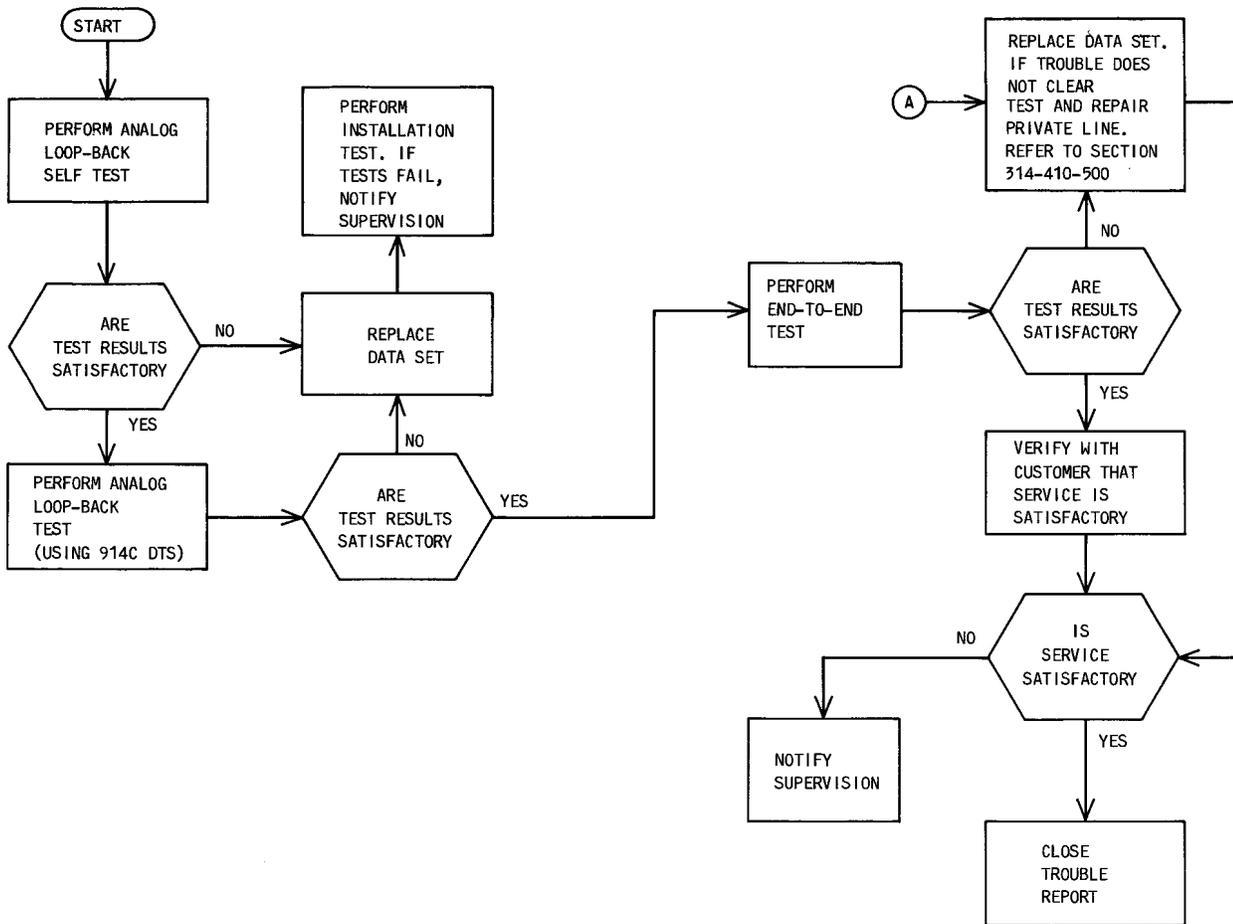

Fig. 5—Maintenance Test Sequence (2-Wire Private Line)
3.08 For a 2-wire private line, the maintenance test sequence is shown in Fig. 5. For a